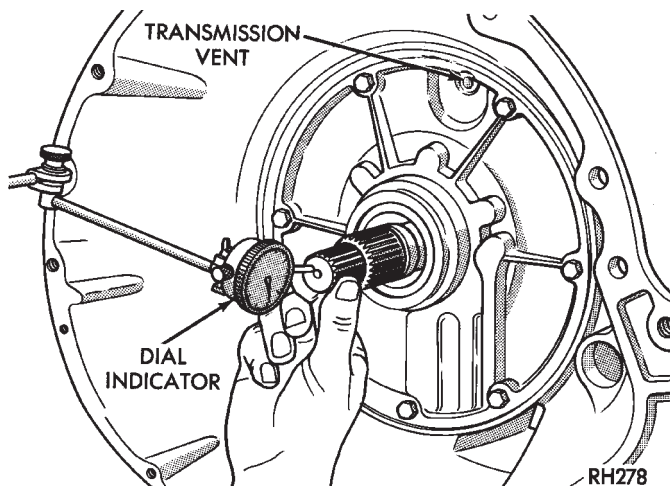

Fig. 169 Measuring Input Shaft End Play
(49) Measure and if necessary, correct input shaft end play as follows (Fig. 169):